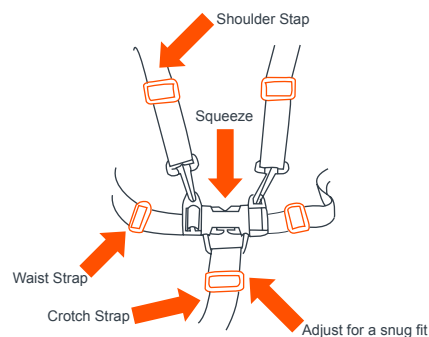

Fig. 13b
• Carefully place the child in the stroller seat and bring the safety harness around the child's waist and over the shoulders. Place the crotch strap between the child's legs. Insert the male end of each shoulder/waist belt into the buckle on the crotch strap. Tighten the harness to be snug around the child's waist and over the child's shoulders (Fig. 13b).